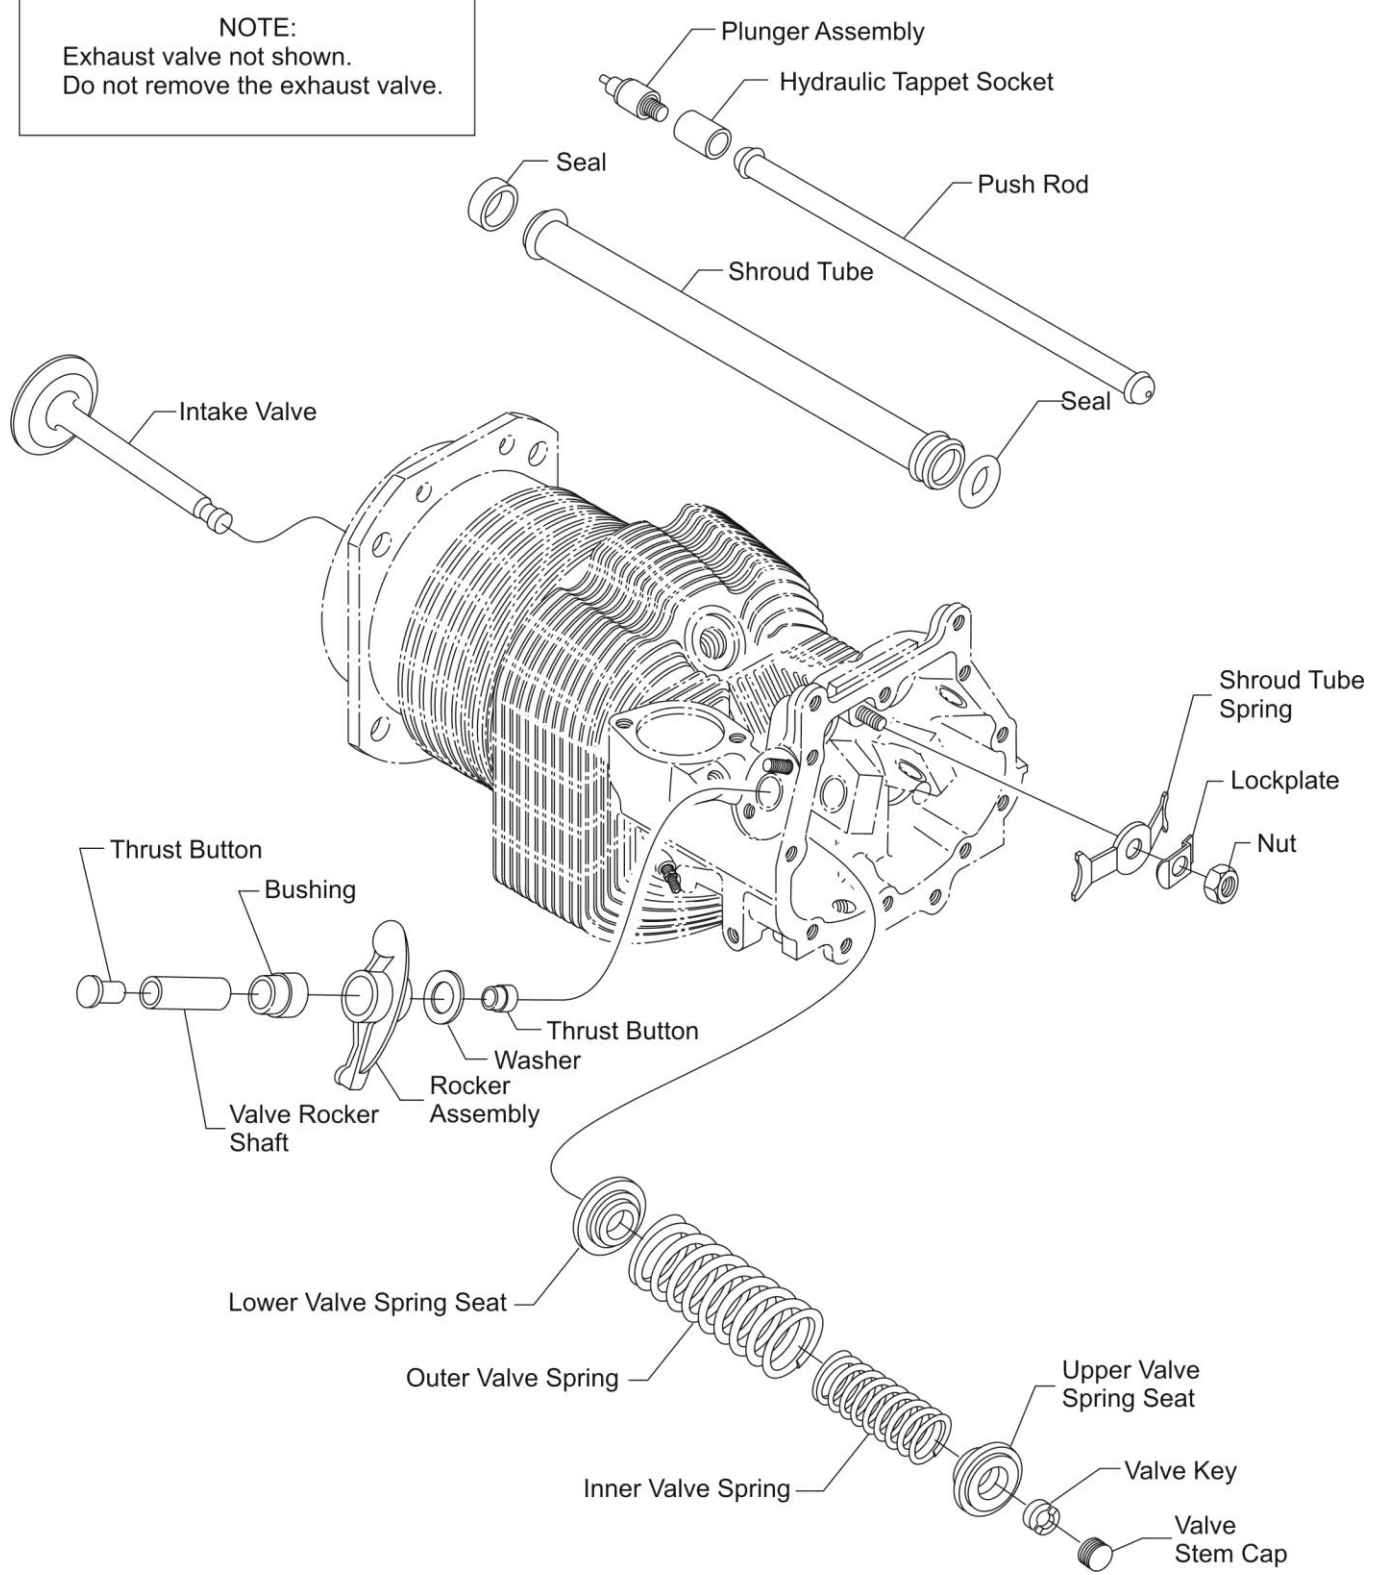

Figure 1
5. Remove the valve rocker shaft (Figure 1), rocker assembly, valve stem cap, push rod, shroud tube, and hydraulic tappet socket. Remove and discard the shroud seals.
14. Install the inner and outer valve springs and upper and lower valve spring seats (Figure 1) in the same position as removed in the correct orientation.
18. Install the hydraulic tappet socket (Figure 1), shroud tube with new shroud seals, push rod, valve stem cap, rocker assembly, and rocker shaft on the engine cylinder with fastening hardware. Torque the hardware fasteners in accordance with the latest revision of the Table of Limits, SSP-1776.